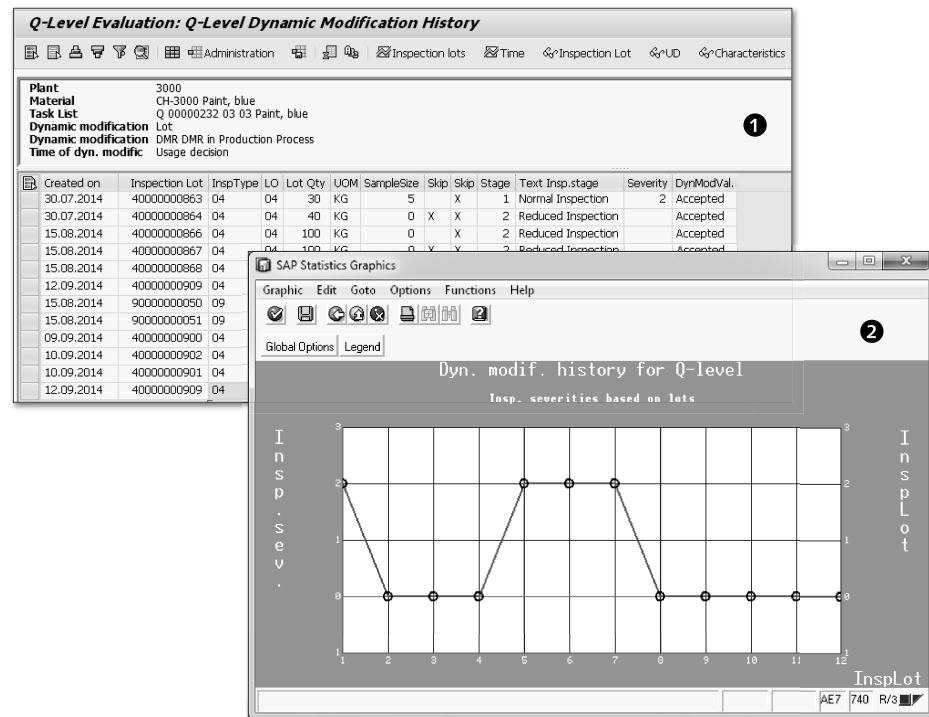

Figure 19.12 Q Level Evaluation
Figure 19.12 ❶ shows the selected data of the Q level. Notice that the TIME OF DYN. MODIFIC. (dynamic modification) is at the time of USAGE DECISION. Choose INSPECTION LOT in ❶, and ❷ presents a graphical version of how DMR trends based on inspection severities (the Y-axis).